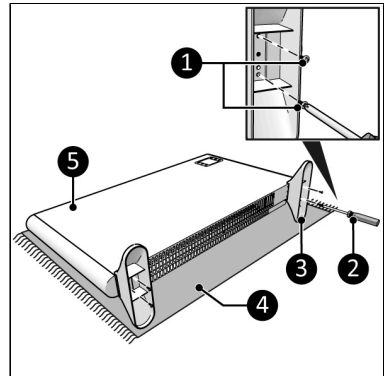

Figure 7.
1. Lay the device down on a steady soft surface (Figure 7, pos. 4).
2. Place the pedestals (Figure 7, pos. 3) on both sides of the main body (Figure 7, pos. 5).
3. Screw and tighten the pedestals with a small screw (Figure 7, pos. 1) using a Phillips screwdriver (Figure 7, pos. 2).